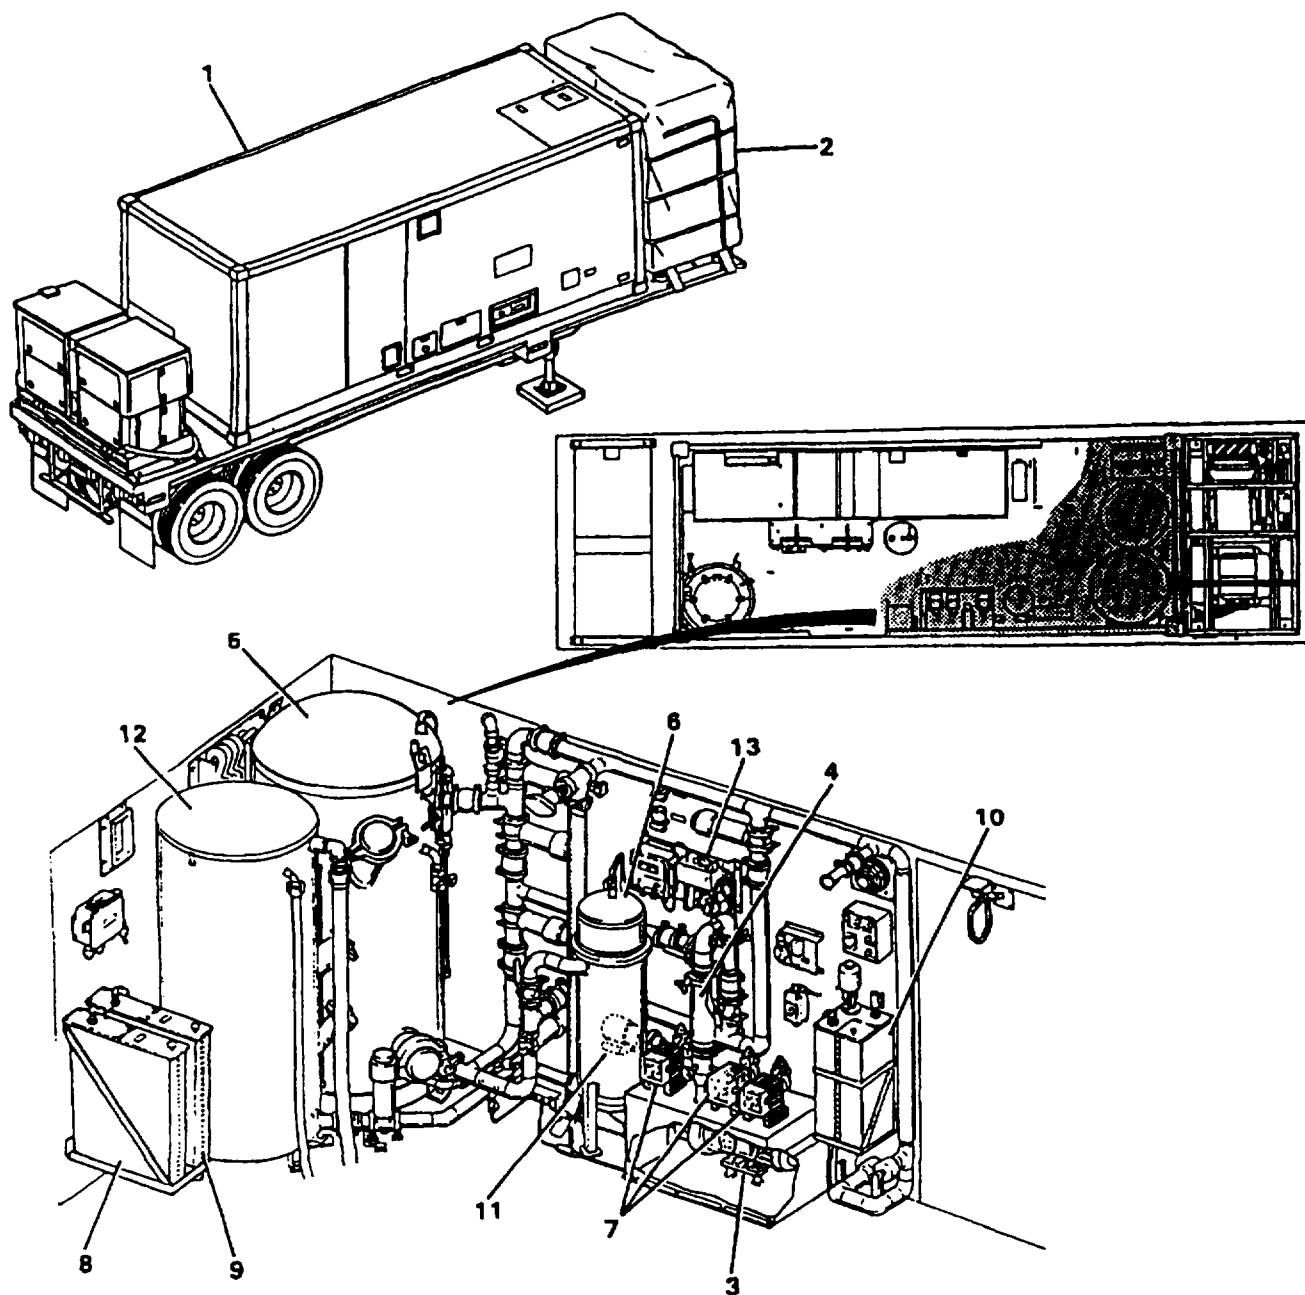

Figure 1-4. Major Components of the Water Purification System (Sheet 1 of 4)
b. *Water Purification System (Figure 1-4).* This system purifies the raw water to make potable water suitable for drinking.
- (1) The components of the Water Purification System are contained in the ISO container (van) (1) and the separate high pressure pump assembly (2).
- (2) The Water Purification System consists of the following major components and appropriate piping and valves, monitoring devices, and semi-automatic controls.
- (a) *Feed Water Booster Pump (3).* Pressurizes water from the raw water system as needed for the filtration processes. It is a 115 gpm (435 lpm) pump and requires 35-40 psig (241-276 kPa) to operate.
- (b) *Basket Strainer (4).* Removes remaining large particles in the water to prevent clogging of the internal distributors of the media filter.